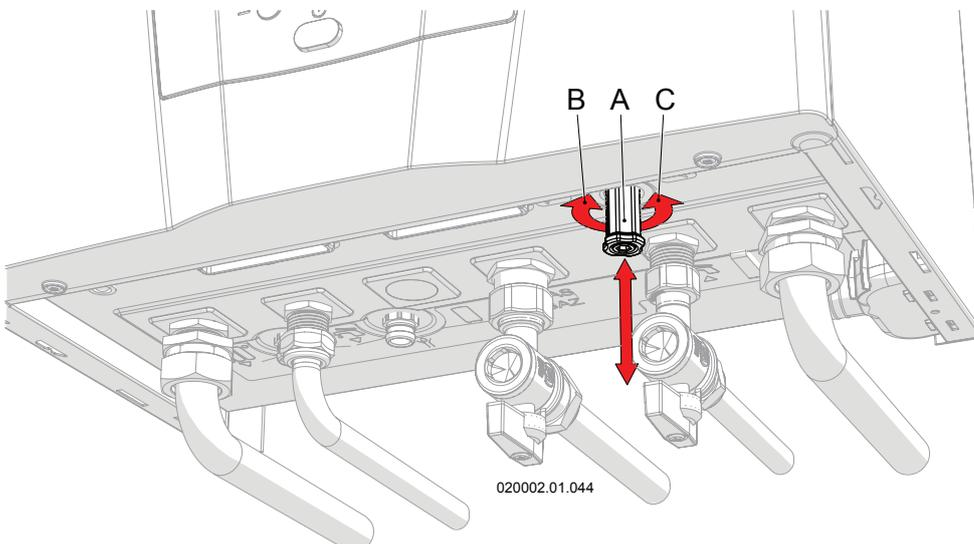

Figure 7-2 – System fill cock
- 1.- Pull the knob “A” in figure 7-2 downwards;
- 4.- Close the fill cock (see knob “A” in figure 7-2), turning it clockwise.
In some boiler models the system fill knob “A” in figure 7-2 may be absent. In these cases, use the device provided by the installer in the system before the boiler itself.
WARNING! During normal operation, fill cock “A” (see figure 7-2) must always remain in the closed position.
Figure 7-2 key